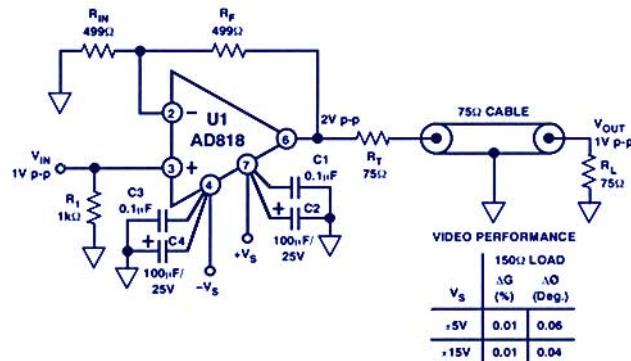
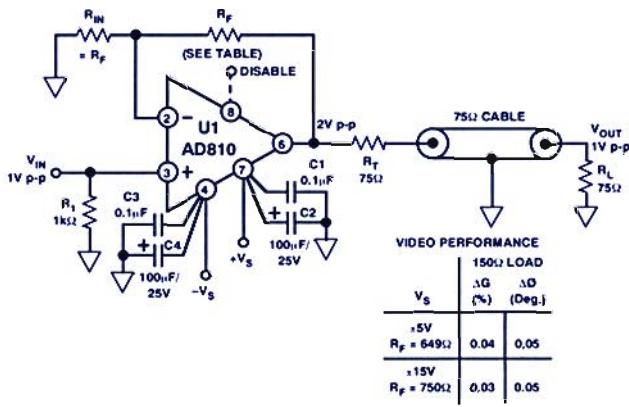
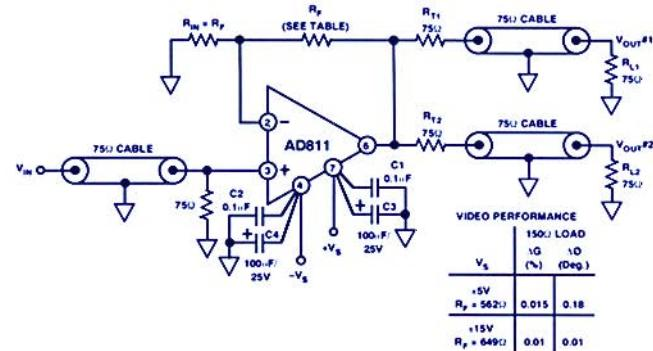

Figure 13. Basic (good) video line driver.
Figure 14. High-performance (better) line driver.
Figure 15. Higher-performance (even better) line driver/distribution amplifier.
The basic video line driver of Figure 13 uses the AD818, a low-cost amplifier noted earlier; it is capable of performing very well. The U1 stage gain is set at 2 $\times$  by equal  $R_F$  and  $R_{IN}$ ; their resistance is low to minimize the feedback time-constant. The AD818 is compensated for stable operation at  $G = 2$ , with maxi-
Figure 14 shows a higher-performance video line driver using the AD810 transimpedance amplifier. This circuit is also relatively inexpensive, but it can perform better than Figure 13 because of the AD810's appreciably higher SR and gain-bandwidth, plus its higher output current. It also has an optional DISABLE function; the stage can be shut down by control logic.
The AD810 has a -3-dB bandwidth of 65 MHz here, and a ripple-free 0.1-dB bandwidth of 20 MHz, both better than for Figure 14. The DISABLE pin (8) is active-low to shut the device down to a standby current drain of 2 mA, with 60-dB input-output isolation at 10 MHz. This permits on/off logic control of a single IC—or multiplexing the outputs of a number of devices.
Figure 15 illustrates a very high performance video line driver. This circuit uses the AD811 as a gain-of-2 video buffer or line driver. It differs from the driver circuits of Figures 13 and 14 in that it optionally doubles as a distribution amplifier, driving two output lines. Operating at a gain of 2, the AD811 drives a pair of 75- $\Omega$  output lines through 75- $\Omega$  terminations.  $V_{OUT1}$  and  $V_{OUT2}$  are individually isolated/buffered replicas of  $V_{IN}$ .